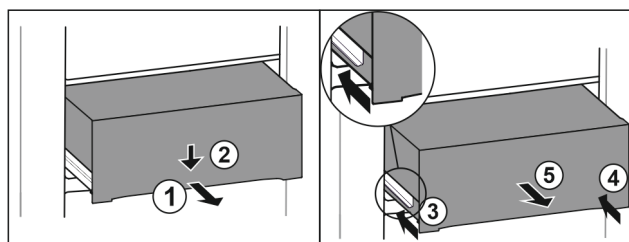

Fig. 94
- ▶ Pull out drawer half-way. Fig. 94 (1)
- ▶ Push the drawer down at the front. Fig. 94 (2)
- ▶ Push the left rail in by about 2 cm. Fig. 94 (3)
- ▶ Push the right rail in by about 2 cm. Fig. 94 (4)
- ▶ Remove drawer to the front. Fig. 94 (5)